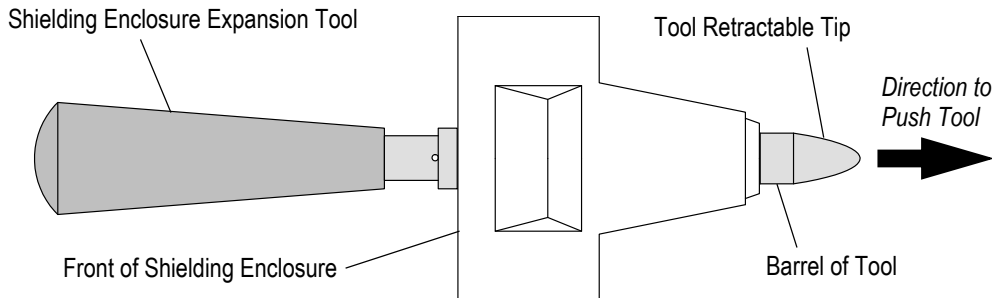

Figure 2
1. If an enclosure is included with the kit, push the enclosure over the shielding enclosure expansion tool as shown in Figure 2. Refer to Section 5, TOOLING. If no enclosure is included, go to Paragraph 3.2.B.